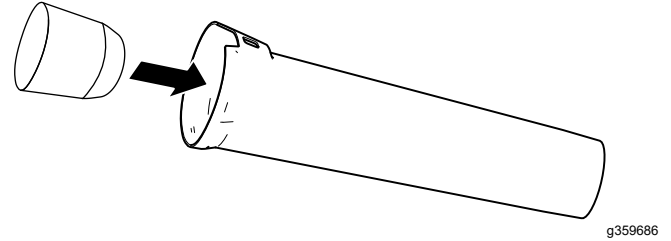

Figure 4
1. Install the blower nozzle into the into the tube (Figure 4).